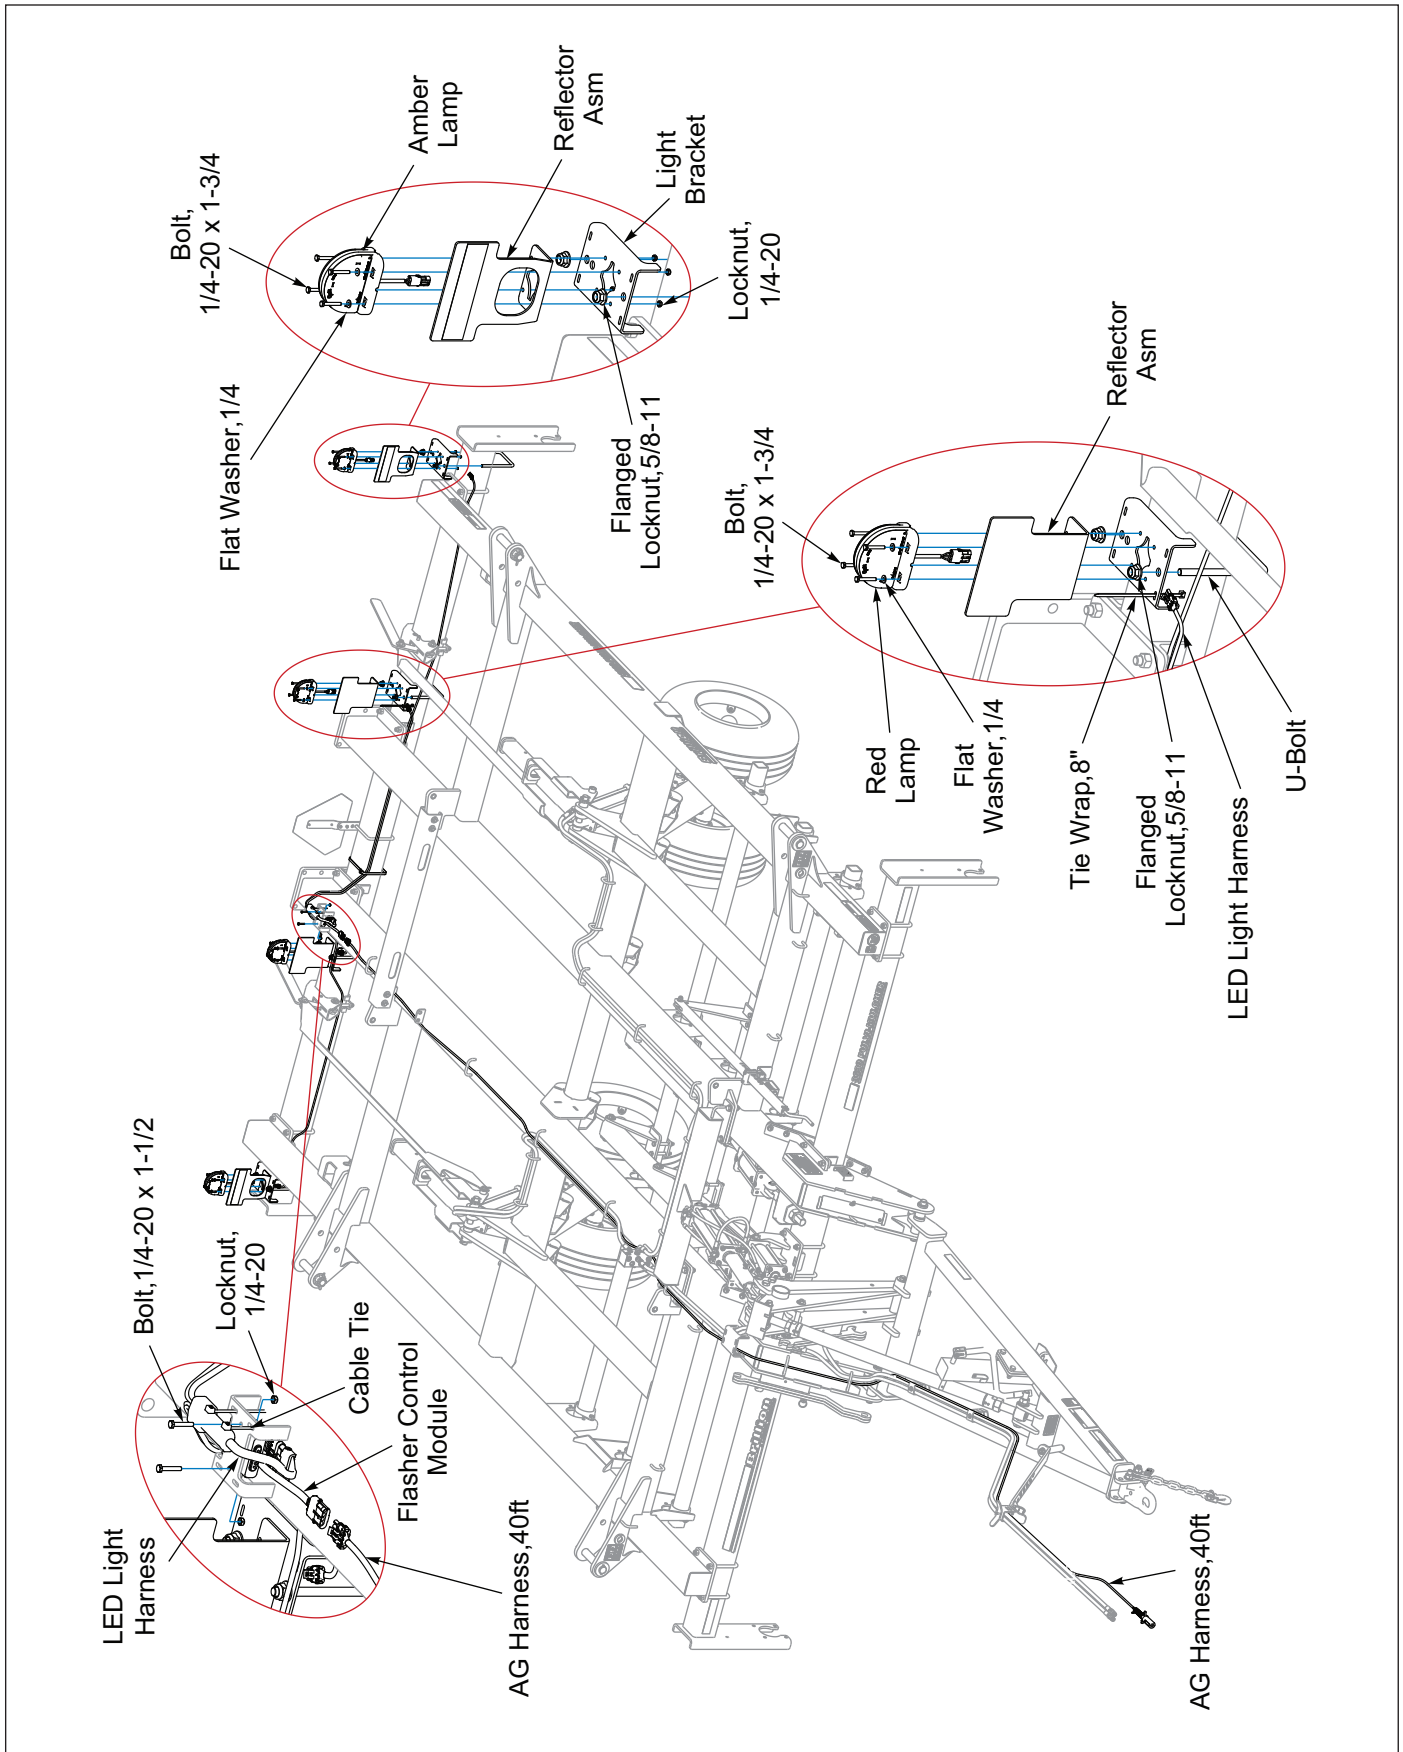

Figure 2-39: Electrical Layout
1. Attach the Light Brackets onto the Rear Roller Frame Tube with 5/8-11 U-Bolts and Flanged Locknuts. See **Figures 2-39 and 2-40**.